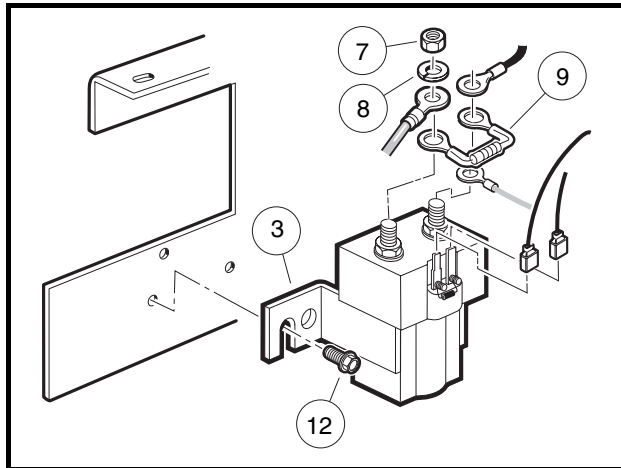
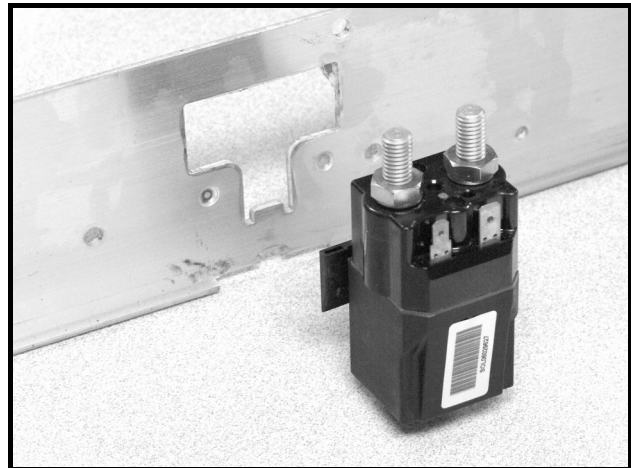

Figure 23-8 Screw-Mounted Solenoid
Figure 23-9 Slot-Mounted Solenoid
4. Screw-mounted solenoid (**Figure 23-8, Page 23-10**).
- 4.2. Lift the solenoid (3) up and off of the component mounting plate.
5. Slot-mounted solenoid (**Figure 23-9, Page 23-10**).
1. Mount solenoid onto component mounting plate with screws (12) (**Figure 23-8, Page 23-10**) or by engaging slot (**Figure 23-9, Page 23-10**).
2. Tighten screws (12) to 60 in-lb (6.8 N·m).
3. Using the wiring diagram, install the wires, resistor (9), washers (8), and nuts (7) onto the large mounting posts. Tighten nuts to 77 in-lb (8.7 N·m). See **Wiring Diagram** on page 21-2.
4. Install the blue/white and light blue wires onto the small terminals of the solenoid (**Figure 23-8, Page 23-10**).